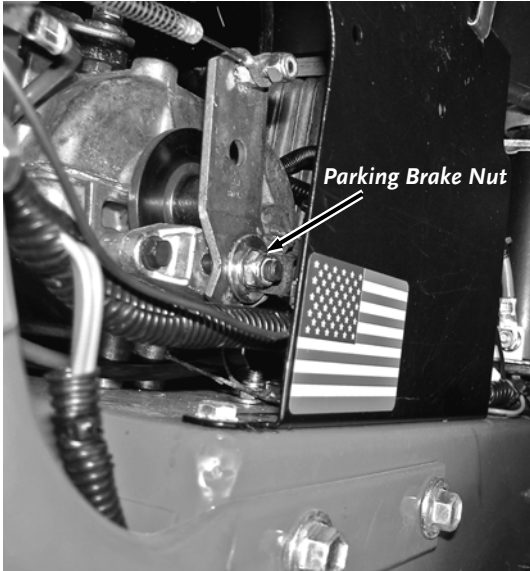

Figure 28
1. Tighten or loosen the Parking Brake Adjusting Nut as needed (**Figure 28**). Tightening the Nut (clockwise) will increase pressure and loosening the Nut (counterclockwise) will decrease the pressure on the Brake Pad.